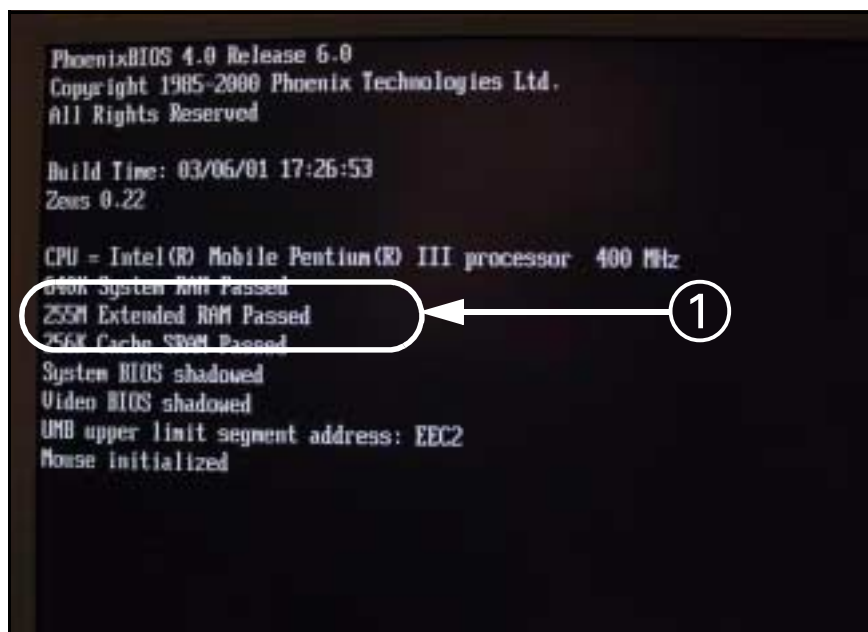

Figure 6-2 Boot-Up Self-Test Screen
3. During boot up, verify memory test passes (① in Figure 6-2).